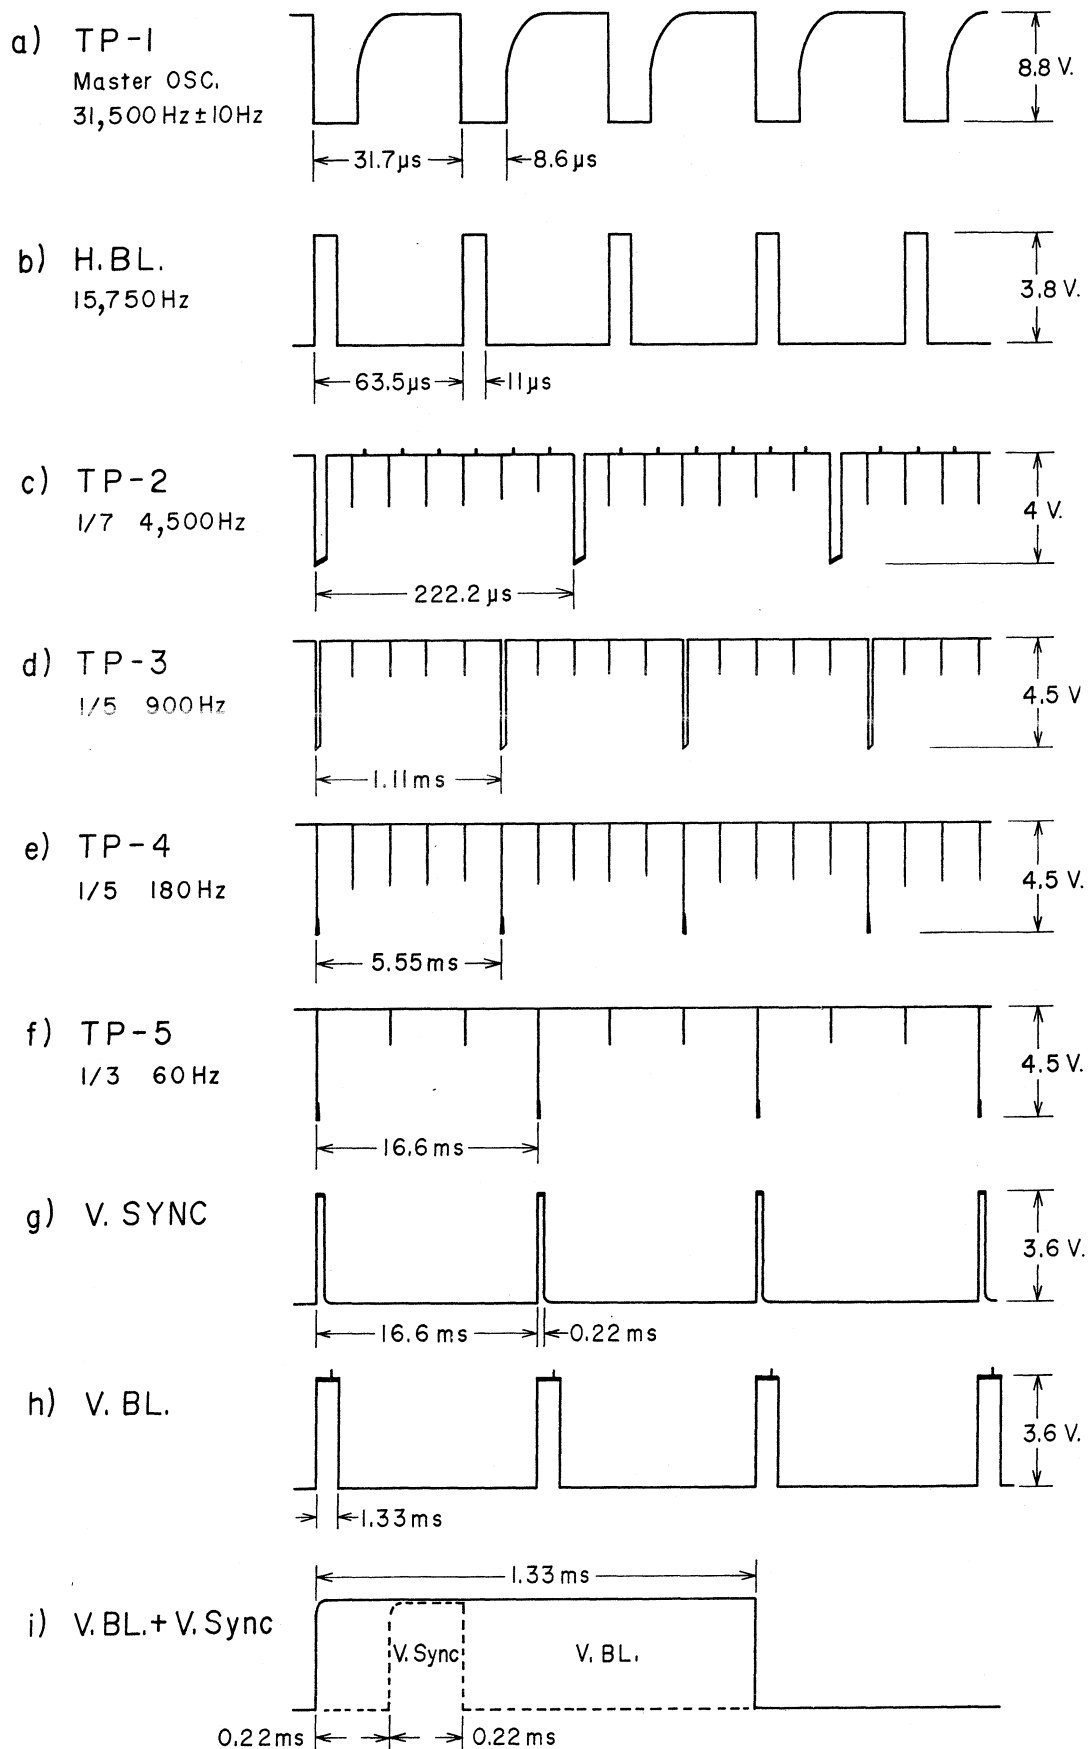

Fig. 1-39 S.S.G. Waveforms (PX-509)
- c) Adjust core of oscillator coil "L 7001" (Sny-033-1357) so that the frequency counter indicates 31,500 Hz (± 10 Hz) as shown in fig. 1-39 (a).
Confirm that the frequency of the wave form at PX-509 Horizontal Blanking Terminal is 15,750 Hz as shown in fig. 1-39 (b).
(3) Frequency Divider Adjustment
- a) Adjust Potentiometer VR-1 so that the waveform at TP-2 (as shown in fig. 1-39 (c)) is triggered at the 7th pulse. At this point, confirm that the negative pulse frequency of TP-2 is $1/7$ of 31,500 Hz (4,500 Hz).
- b) Adjust VR-2 so that the waveform at TP-3 (as shown in fig. 1-39 (d)) is triggered at the 5th pulse. At this point, confirm that the frequency is $1/5$ of 4,500 Hz (900 Hz).
- c) Adjust VR-3 so that the waveform at TP-4 (as shown in fig. 1-39 (e)) is triggered at the 5th pulse. At this point, confirm that the frequency is $1/5$ of 900 Hz (180 Hz).
- d) Adjust VR-4 so that the waveform at TP-5 (as shown in fig. 1-39 (f)) is $1/3$ of 180 Hz (60 Hz).
(4) Confirmation of Vertical Sync. Signal
Connect an oscilloscope to PX-509 vertical sync. terminal and confirm that the pulse width of the vertical sync. signal is 0.22 milli-seconds and that the cycle time is 16.6 milli-seconds per each Hz. (ref. fig. 1-39 (g)).
Connect an oscilloscope to PX-509 vertical blanking terminal and confirm that the vertical blanking signal pulse width is 1.33 milli-seconds and that the cycle time is 16.6 milli-seconds per each Hz. (ref. fig. 1-39 (h)).